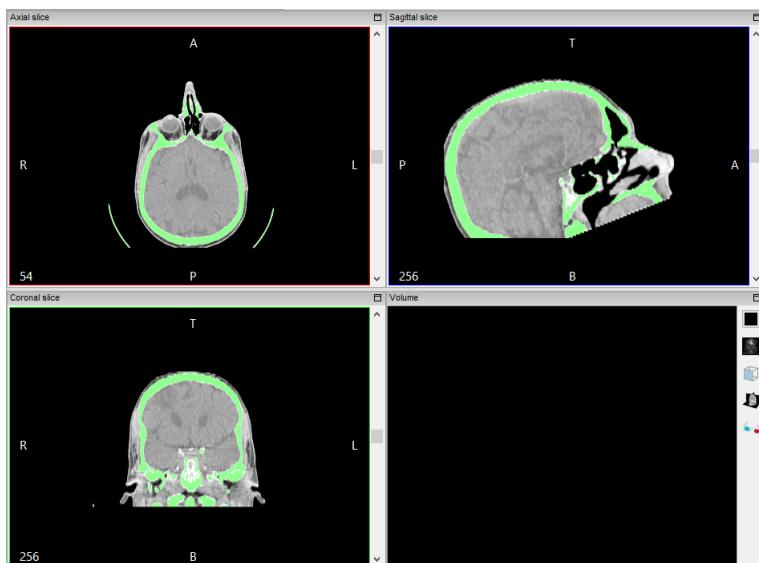

Figure 4.10: Rotated image after reorientation is done.
**Apply** in the parameter window (Figure 4.7). This may take a few moments depending on the image size. Figure 4.10 shows an image successfully reoriented.